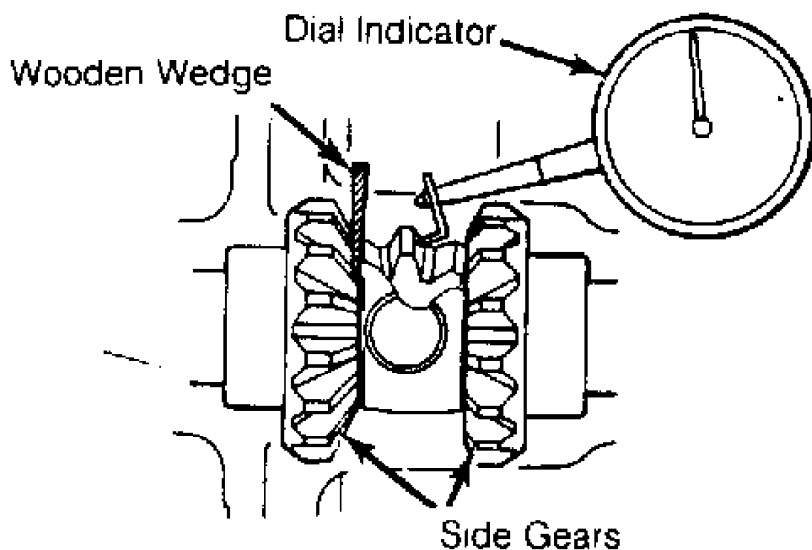

Fig. 5: Checking Pinion & Side Gear Backlash
- 2) Install pinion shaft without lock pin. Check pinion and side gear backlash. Install wooden wedge to lock side gears. Using dial indicator, measure gear backlash. See Fig. 5.